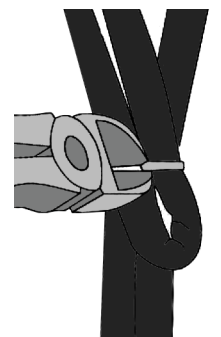

Figure 4
- Cut tie wraps on motor cables so wires are free to move and be relocated (see Figure 4).